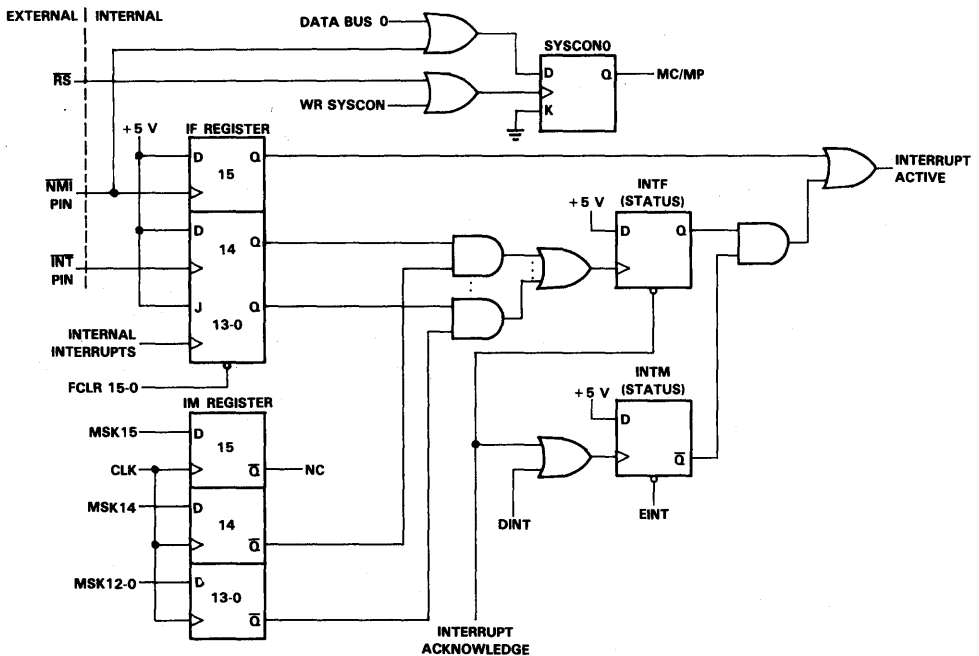

Figure 3-6. Interrupt Subsystem
The TMS320C14/E14 provides a total of 15 external and internal interrupts for communication with time-critical internal and external operations. Two interrupts are dedicated for external sources, and are triggered by a negative edge on pins NMI/MC/MP and INT. The remainder of the interrupts are used to service the on-chip peripherals. All the interrupts, internal or external, are mapped into a 16-bit register called the interrupt flag register (IF). In addition, a 16-bit register called the interrupt mask register (IM), is also available to mask individual interrupts. Figure 3-6 shows the architecture of the interrupt subsystem.